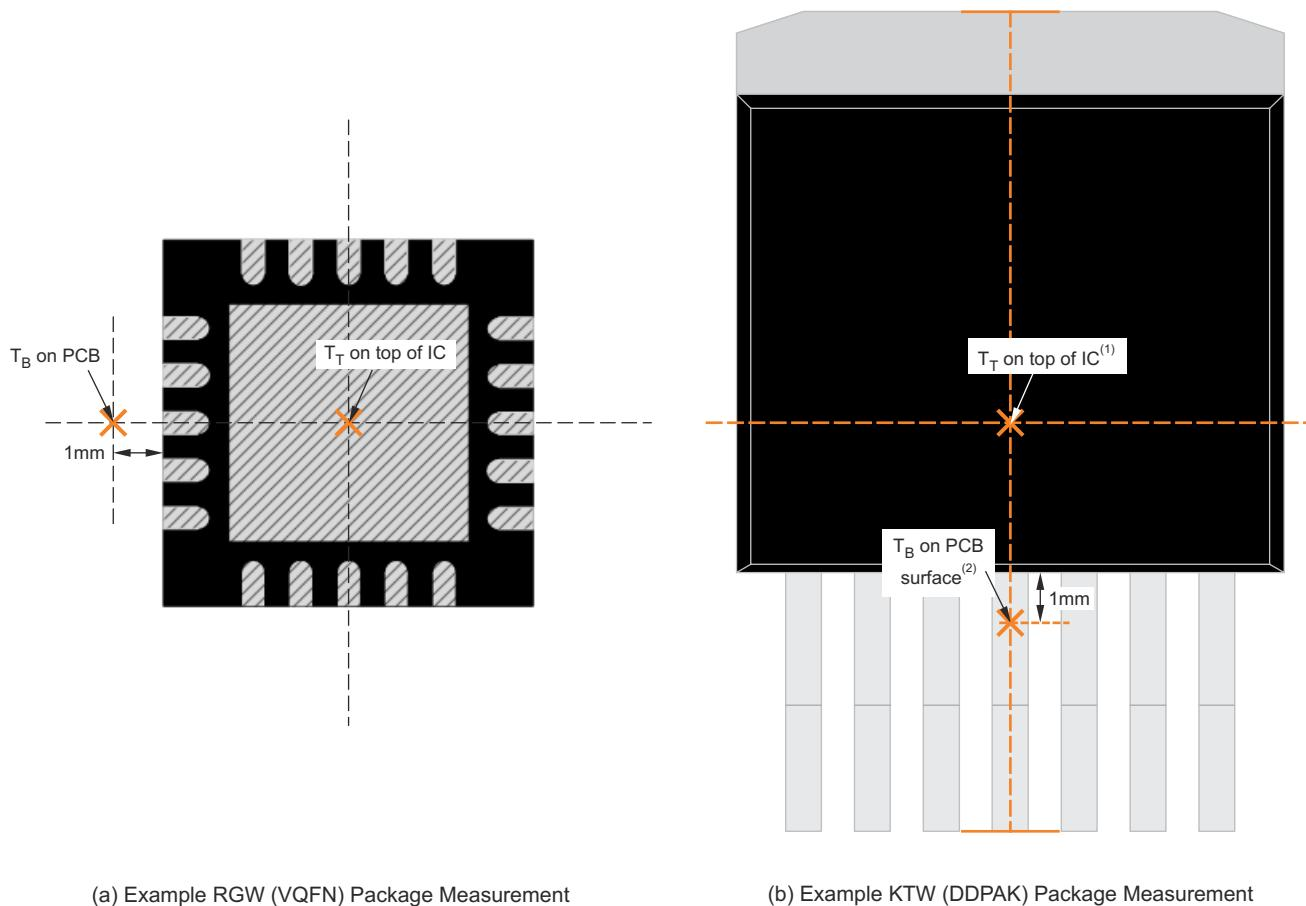
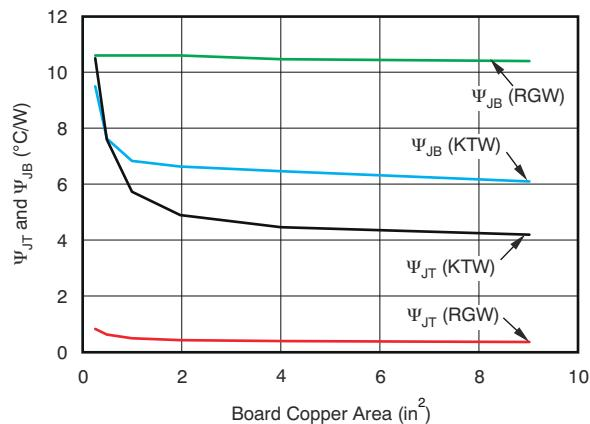

図 7-8. Measuring Points for T_T and T_B
图 7-9. Ψ_{JT} and Ψ_{JB} versus Board Size
- T_B is the PCB temperature measured 1mm away from the device package *on the PCB surface* (see 図 7-8)
Compared with $R_{\theta JA}$, the thermal metrics Ψ_{JT} and Ψ_{JB} are less independent of board size but do have a small dependency on board size and layout. 图 7-9 shows characteristic performance of Ψ_{JT} and Ψ_{JB} versus board size.
Referring to 图 7-9, the RGW package thermal performance has negligible dependency on board size. The KTW package, however, does have a measurable dependency on board size. This dependency exists because the package shape is not point symmetric to the center of a device. In the KTW package, for example (see 图 7-8), silicon is not beneath the measuring point of T_T that is the center of the X and Y dimension, so that Ψ_{JT} has a dependency. Also, because of that non-point symmetry, device heat distribution on the PCB is not point symmetric either, so that Ψ_{JB} has a greater dependency on board size and layout.